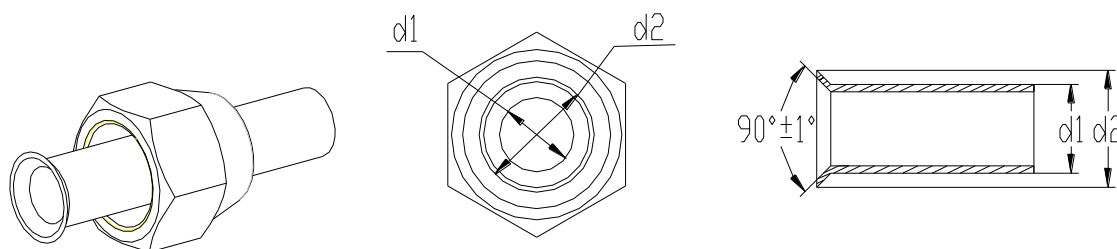

Fig.10
- (1) Cut the connection pipe with a pipe cutter to prevent it from being unshaped.
- (2) Remove burrs with the cut surface facing downward so that the chips do not enter the pipe.
- (3) Remove the flare nuts that are connecting indoor connection pipe, hydro box connection pipe and outdoor unit. Then use flaring tool to put the flare nut onto the pipe (as shown in Fig.10).
- (4) Check if the flare part is flaring evenly and if there is any crack.